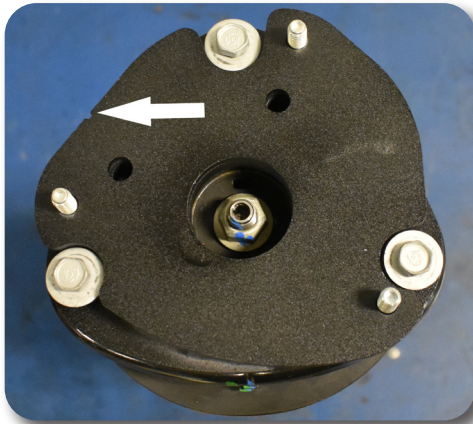

Figure 12A
16. With the strut assembly back together, install the top spacer on top of the strut using the factory mounting bolts. The top spacers are side specific, the notch on the top plate of the spacer should face towards the front of the vehicle when installed. Torque bolts to 26 ft-lbs Figure 12A/12B.